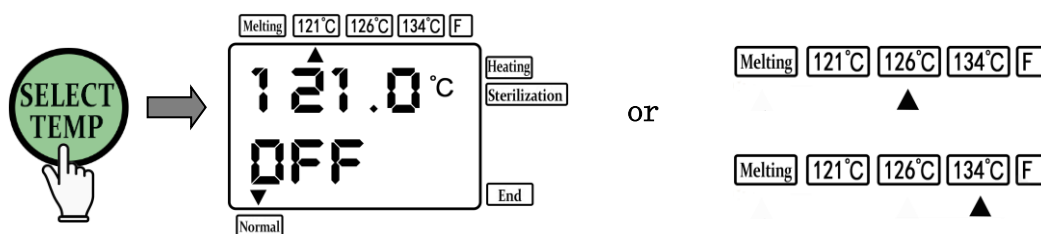

Fig. 10
Open the water filling valve on the left door panel (**Fig.8**), and remove the top lid of the water filling port. Then add pure water into the water filling port (**Fig.9**) to make the water level at the running water level (**Fig.10**). After close the water filling valve, this process finishes.
① Set the sterilization temperature: Select the sterilization cycle according to the sterilization. This product presets three one-key operation modes of "121° C", "126° C", and "134° C". Press "Temperature Selection" key to select the desired One-key temperature (Fig.10). **Note: In the one-key mode, the sterilization temperature has a corresponding sterilization default time, including 121° C-20min, 126° C-15min, and 134° C-20min.** Regarding the melting function, please refer to Chapter 7 "Instructions of Control Panel".